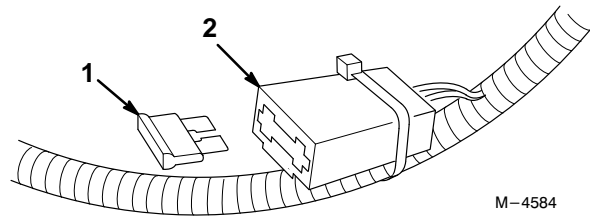

Figure 31
2. Install the new fuse as shown in Figure 31.